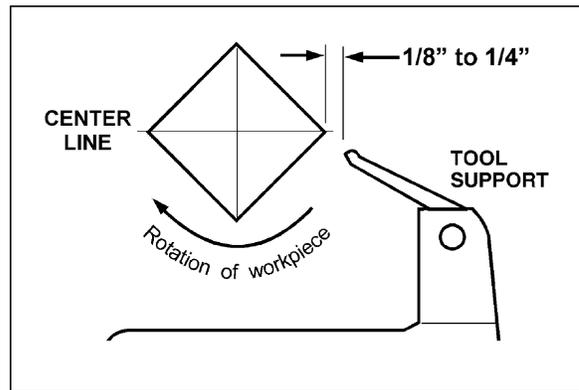

Figure 39
10. Move tool support into position. It should be parallel to workpiece, just below the centerline and approximately 1/8" to 1/4" from the corners of the workpiece to be turned, as in Figure 39. Tighten support base to Lathe bed.